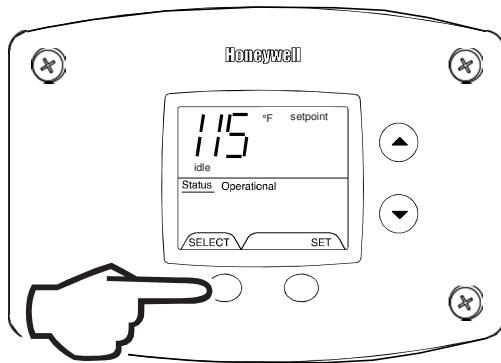

Fig. 49
1. In 'Service Mode' press the 'Select' button until 'Setpoint' is shown in the water heater display (Fig. 49).